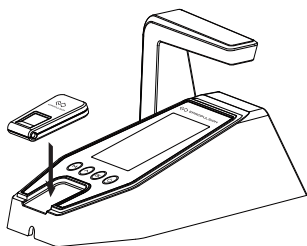

Figure 4-1
Step1: Put the kill switch on the pointed position of remote control (Figure 4-1).